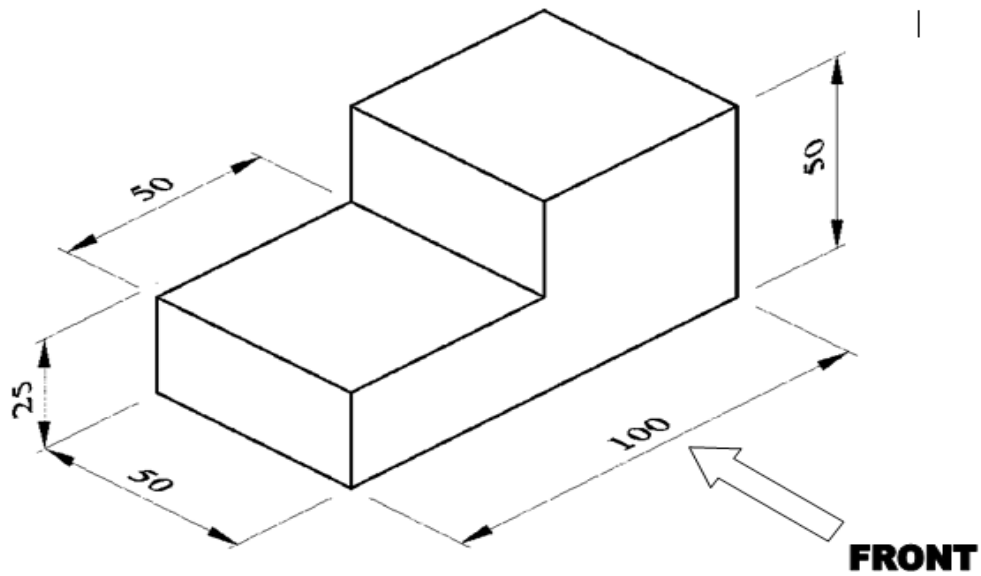

Figure 2
19. **Figure 2** shows an object drawn in isometric projection. Draw the full size first angle orthographic projection of the figure . (6 marks)